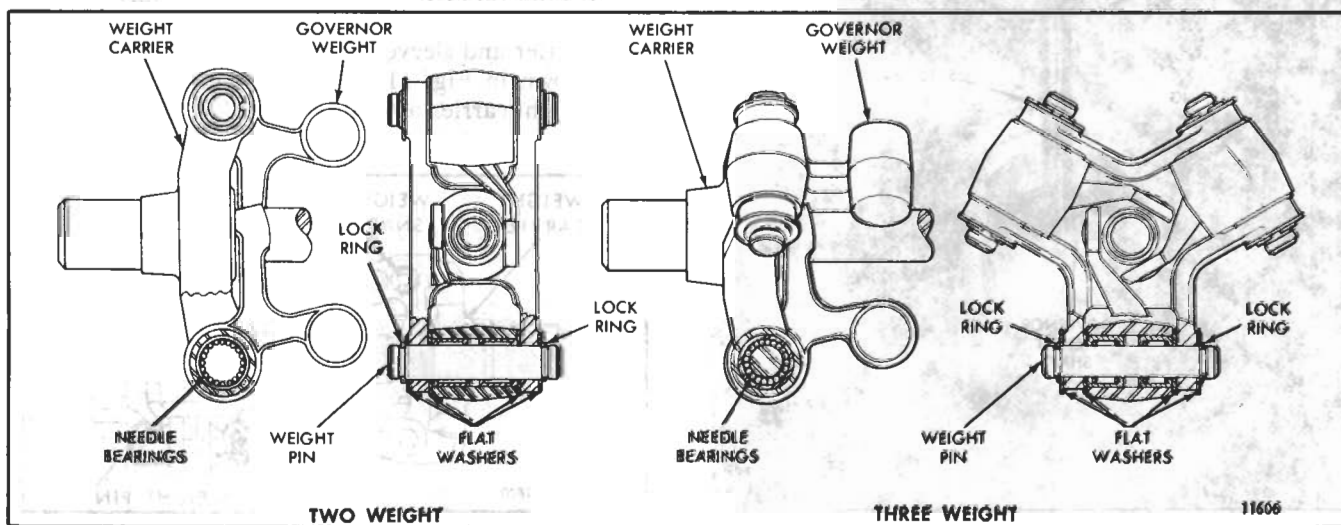

Fig. 10 - Cross Section of Governor Weight Assemblies (Turbocharged Engines)
- b. Refer to Fig. 10 and remove the lock ring from the weight pin with a pair of snap ring pliers. Then remove the weight pin, flat washers and weight assembly from the weight carrier. Remove the second weight from the carrier in the same manner.